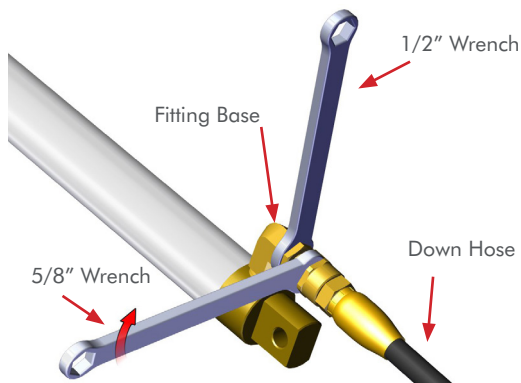

Figure 8
STEP 4 Finish tightening by holding the **Fitting Base** with a **1/2" Wrench** and turning the **Hose Fitting** a quarter turn with a **5/8" Wrench**. **FIG 8**